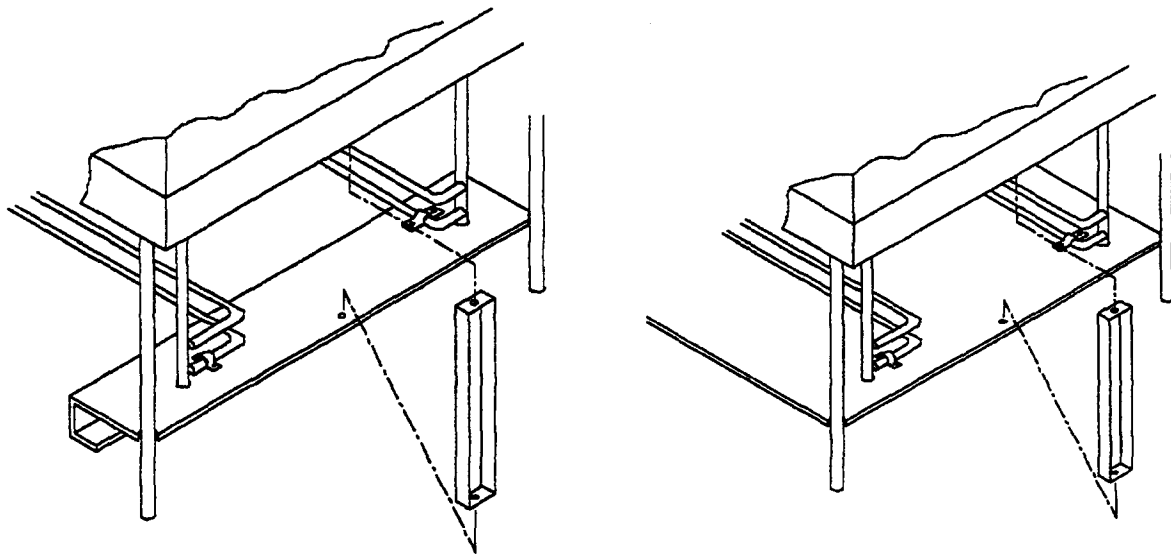

FIGURE 17
7. Install rack stop to rear frame hanger and rear of bottom shelf, or rear channel frame. Refer to figure 17.